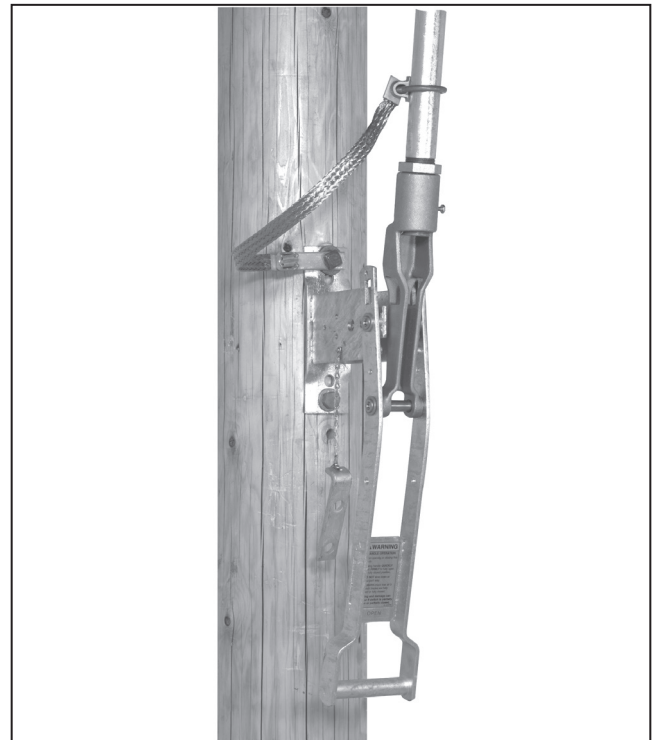

Figure 23. Attaching grounding strap.
**STEP 20.** Fasten the free end of the grounding strap to the lowest vertical operating-pipe section a few inches above the operating handle assembly with the U-bolt connector provided for this purpose. See Figure 23. Then connect the lower end of the strap to a suitable earth ground, using the grounding connector provide at that end of the strap.●